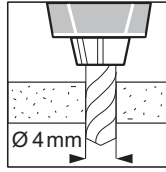

Fig. 4
11. You only need a hole with a diameter of 4 mm to mount the signal on the bearing plate. (Fig. 4) Pull the cables with resistors through the hole and plug-in the signal. Connect cables with the control system. There should remain a little loop of about 3 cm of length so you can lay down the signal in case of maintenance works.